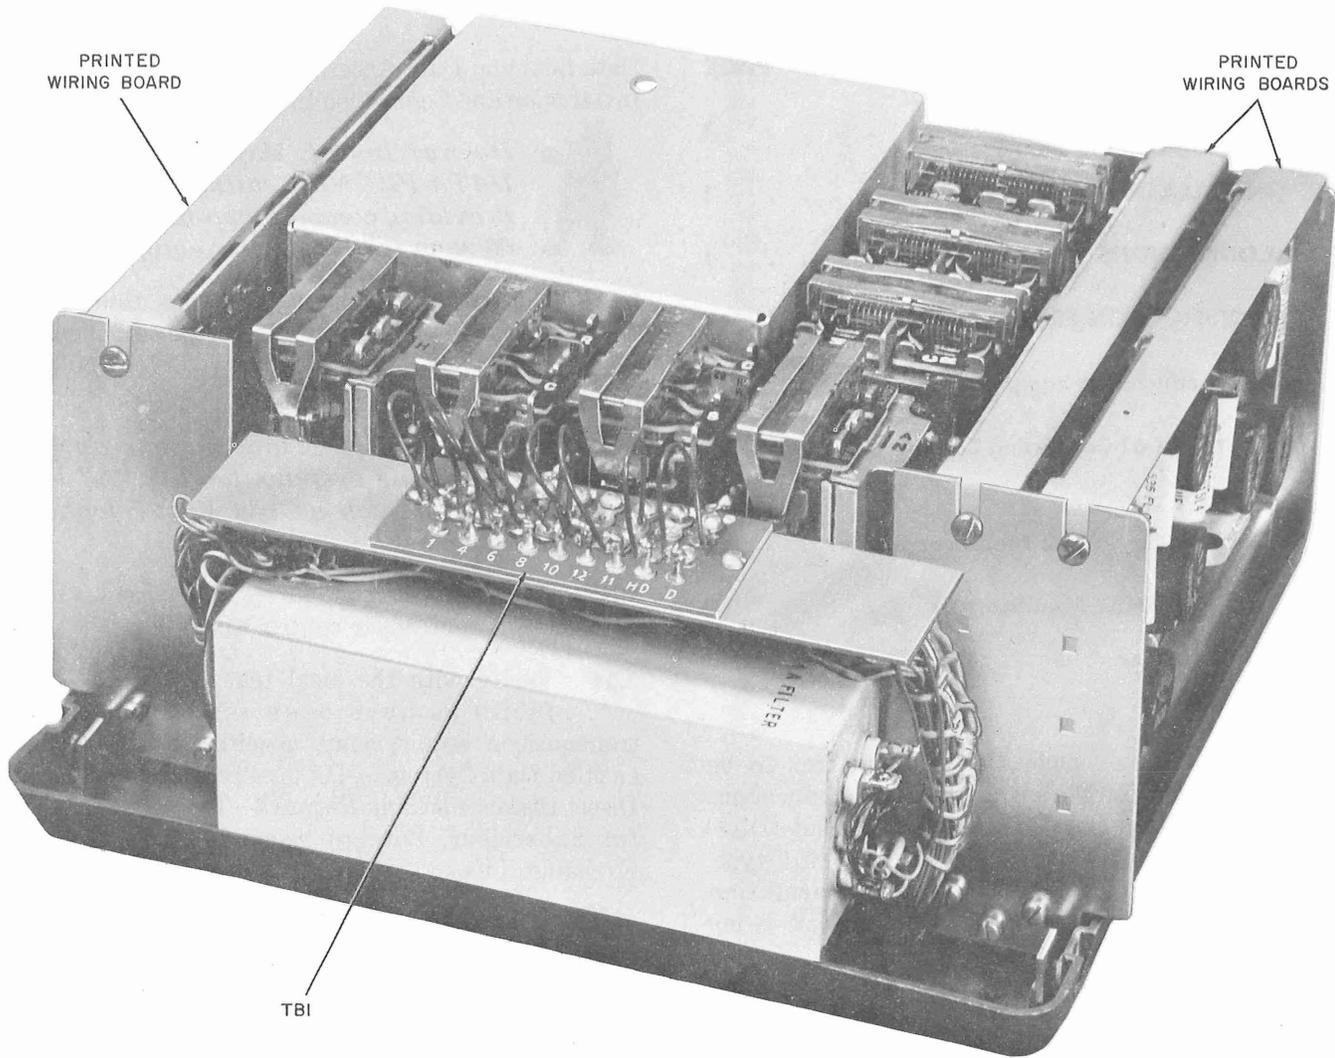

Fig. 1—Data Set 103A-Type—Front View—Cover Removed
2.01 Data set 103A-type (Fig. 1) must be installed in conformance with the section entitled